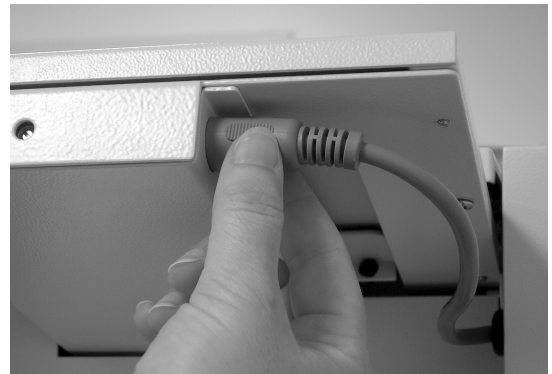

Fig. 5b
5. Plug the cord into the fold plate receptacle (Fig. 5b).